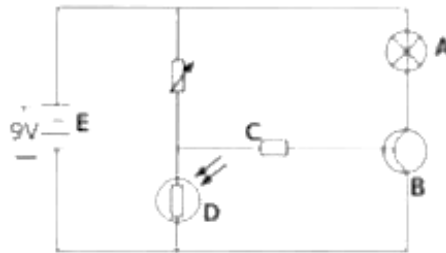

Figure 13
- (e) The diagram in **Figure 13** below shows an electric circuit. Name the parts labelled **A**, **B**, **C** and **D**. [5]